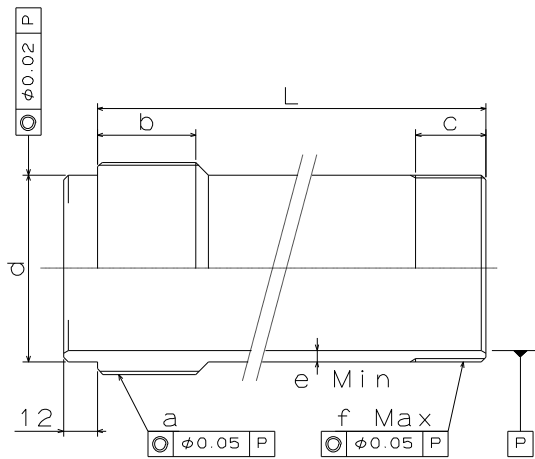

Fig.14
The dimension L in Fig.14 is determined from the distance A between the cylinder adaptor and the back plate.
- Keep the dimension e and the dimension f in Fig. 14 for the draw pipe and a material with the tensile strength 380MPa (38kgf/mm²) or more must be used.